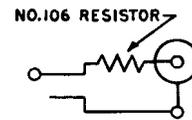

Fig. 11—337C Plug
2.10 337C: The 337C plug (Fig. 11) has inner and outer contacts with a metal shell which serves as a shield. The 337C plug can be used with the KS-13679 coaxial cable and with the 464-type jacks.